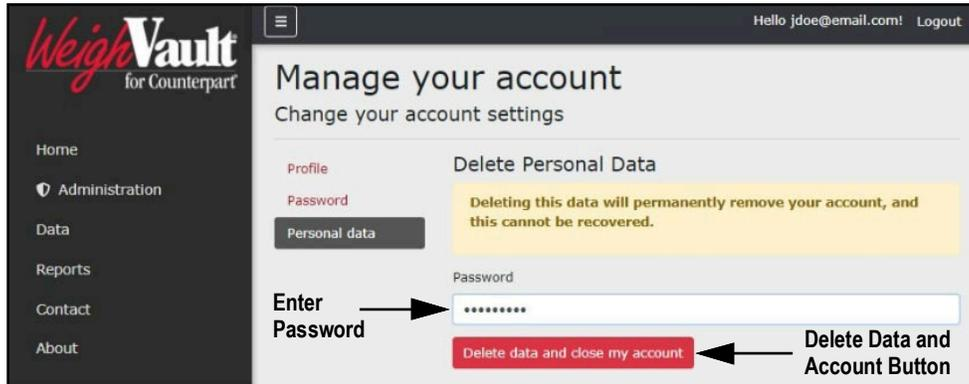

Figure 3-33. Delete Personal Data Page
5. A delete confirmation displays (see Figure 3-33 on page 36).